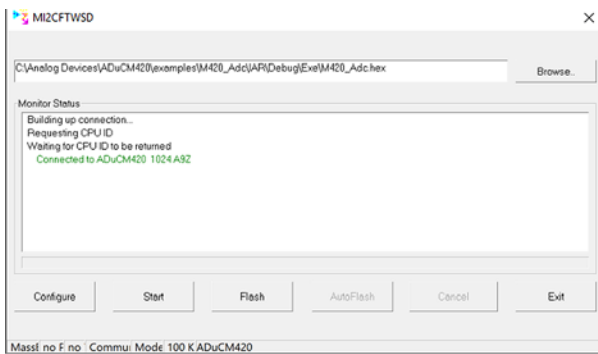

Figure 22. I2C Connection Established
- Click the **Start** button in the **MI2CFTWSD** window. If the I2C connection is established, the status shows the **ADuCM420** is connected, as shown in Figure 22.